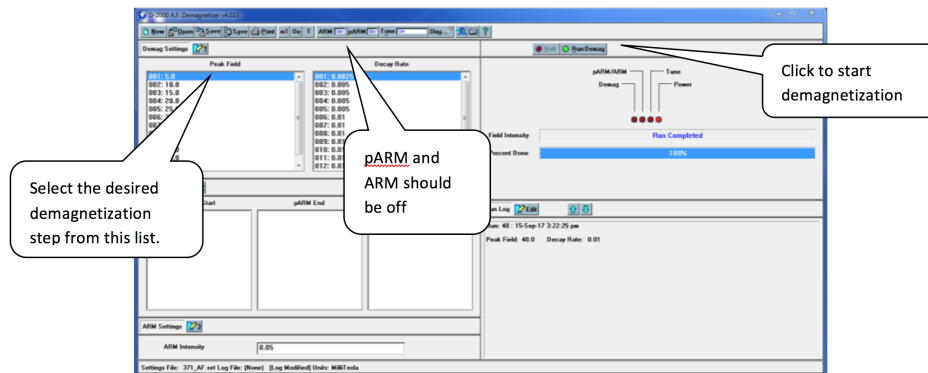

Figure 5: Main D-2000 Window with demagnetization set selected
2. Select the demagnetization field you wish to use from the Peak Field list. Make sure that both pARM and ARM are off. (Figure 5).